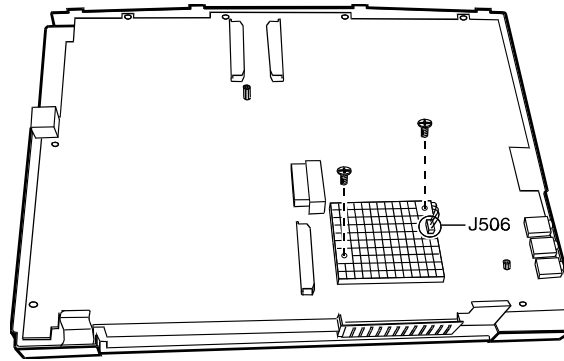

FIGURE 7-31. REMOVING THE HEAT SINK
3. RECONNECT THE FAN POWER CORD, IF EXISTING, TO J506 ON THE SYSTEM BOARD. ATTACH THE HEAT SINK TO THE CPU, AND SECURE WITH TWO SCREWS. (SEE FIGURE 7-31).